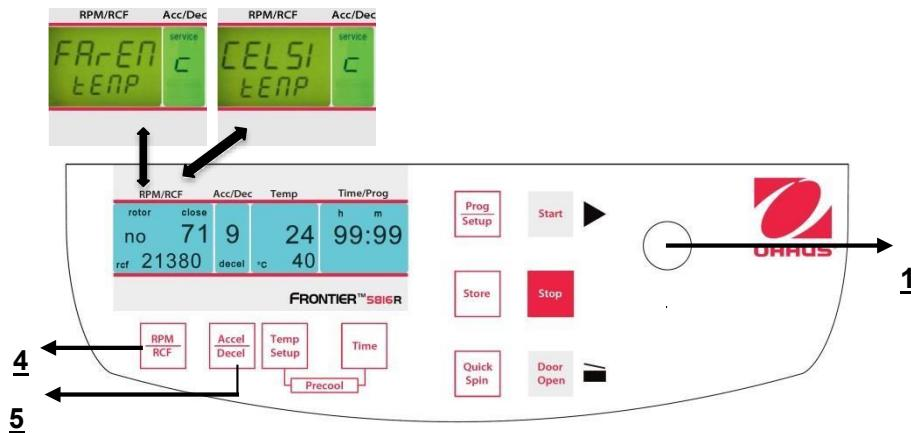

Figure. 34
the word "**CELSI**" flashes and you can change the display into Fahrenheit "**FAREN**", with the adjusting knob (1) (See figure 34).